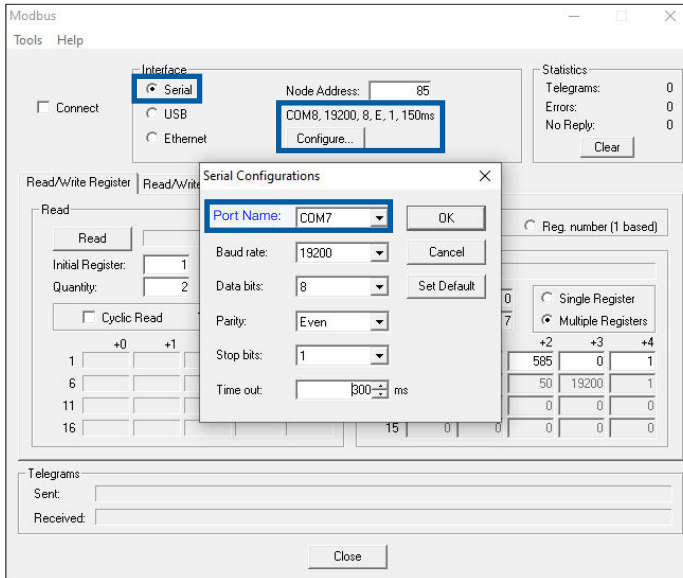
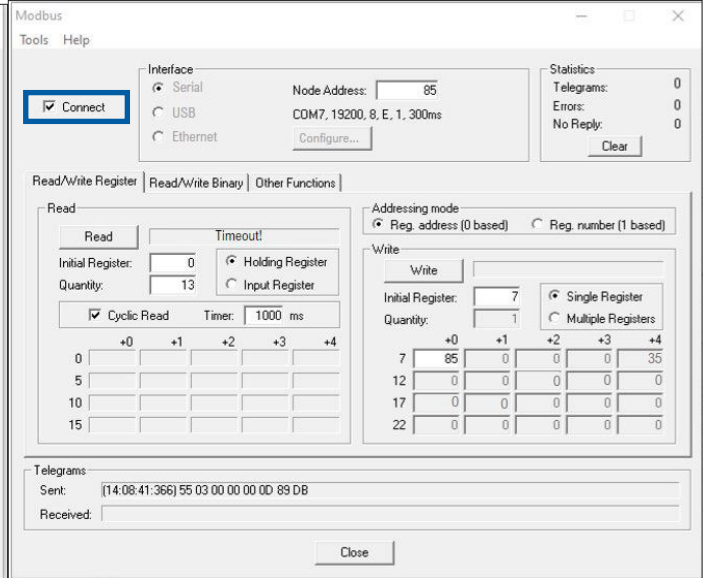

Figure 10 - Modbus parameter setting
Figure 11 - Modbus connecting
- Step 3: Communication common port configure (refer to Figure 10).
- Step 4: After the above operations are completed, please select “connect” (refer to Figure 11).
- Step 2: Select “Read/Write register”, input register the initial address and quantity, and click read. Check whether the read function can be executed successfully. If communicating successes, it shows like Figure 10. If communicating fails, it shows like Figure 11, and it is required to get the right address of this ECM Motor (Refer to Step 3).